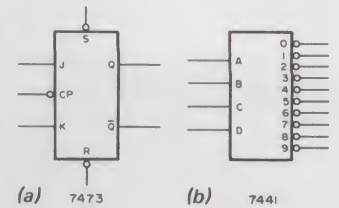

Fig. 2. Other common ICs.
Circles are used for other ICs as well to denote active high or active low. For example, Fig. 2 (a) shows a 7473 JK flip-flop. The circle on the CP input tells you that the flip-flop triggers when the clock pulse (CP) goes low. The circles on the set (S) and reset (R) inputs tell you that you need a low on these inputs to set and reset. In Fig. 2 (b), the circles on the outputs indicate that the outputs go low when active. The 7441 is a Nixie tube driver, which grounds its outputs to turn on a given Nixie digit.